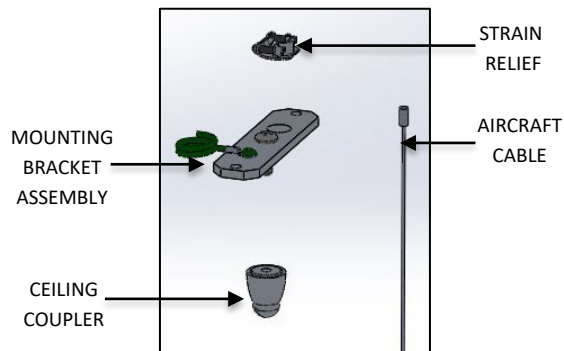
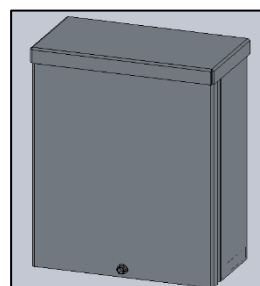

FIG. 5 – MOUNTING KIT
FIG. 6 – REMOTE DRIVER
- b. MOUNTING KIT (as shown in FIG. 5)
- iii. ONE (1) AIRCRAFT CABLE
- iv. ONE (1) CEILING COUPLER (CC)
4. REMOTE DRIVER BOX WITH DRIVER INSTALLED (as shown in FIG. 6)